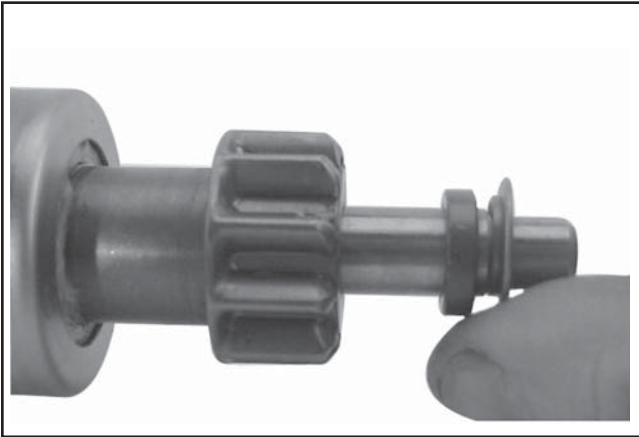

Figure 7-25. Installing Thrust Washer.
3. Install the offset thrust (stop) washer so the smaller **offset** of the washer faces the retainer/collar. See Figure 7-25.